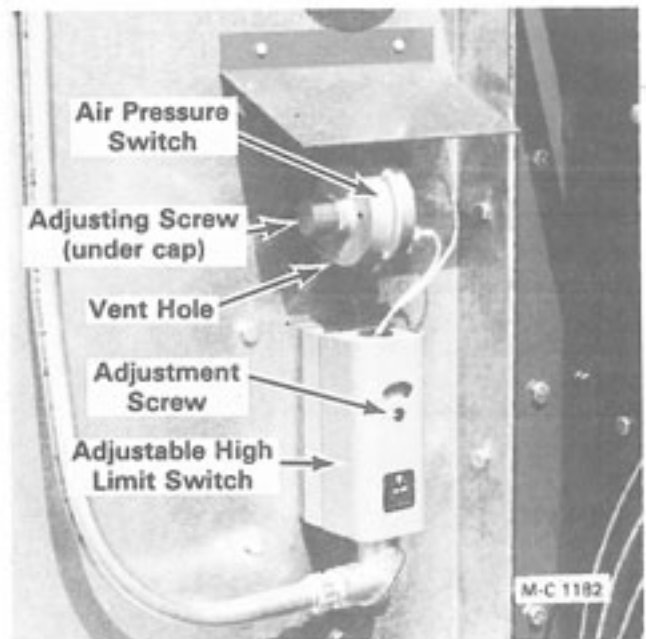

Figure 42
4. Disconnect the two wires at the back of each air pressure switch (there is one for each burner), see Figure 42. Connect the two wires together with a short jumper wire. Do not allow the jumper wire to come in contact with any metal. This will by-pass the air pressure switch.